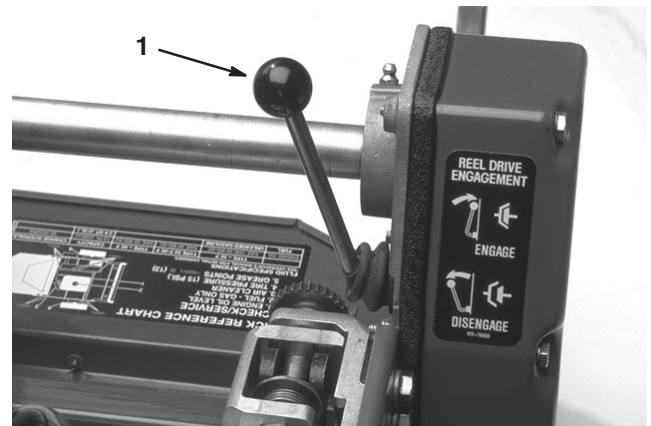

Figure 21
Reel Drive Lever (Fig. 21)
1. Ensure that the traction (Fig. 20) and reel drive (Fig. 21) levers are in the Disengaged position.